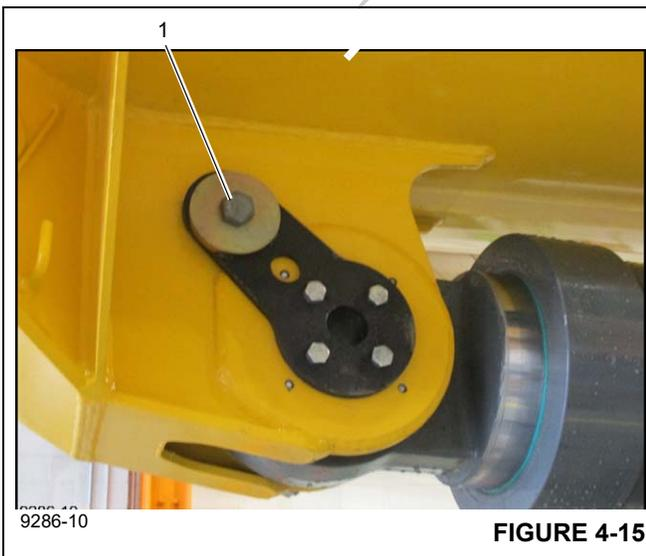

FIGURE 4-15
15. Install bolt to secure pin (1), (Figure 4-15).